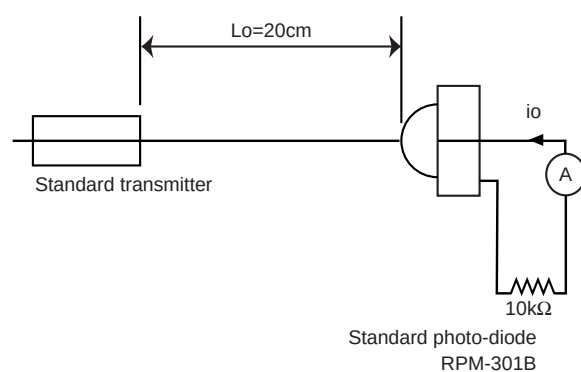
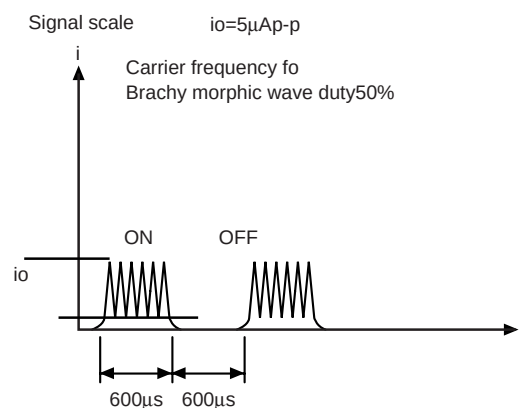

Fig.2 Measurement of standard transmitter proofreading
Fig.3 Standard photo diode current
When standard transmitter output the signal at Fig.1 standard photodiode output become  $i_o=5\mu\text{Ap-p}$  (Fig.3) under the measurement condition Fig.2.
- (1) All characteristics of the receiver in this specification are specified by supplying burst wave form (Fig.1) with ROHM standard transmitter (Fig.2).